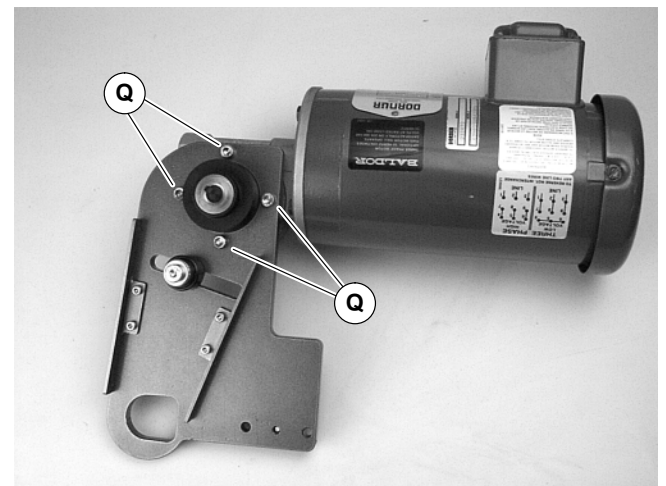

Figure 4
2. If required, change gearmotor position by removing four (4) screws (Q of Figure 4). Rotate gearmotor to other position and replace screws (Q). Tighten to 12 Nm.